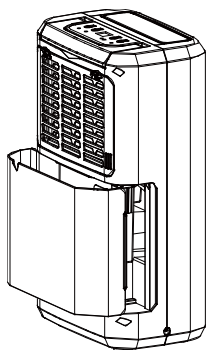

Fig. 1
1. Lightly press on the sides of the tank with both hands and pull out gently. (see Fig. 1)